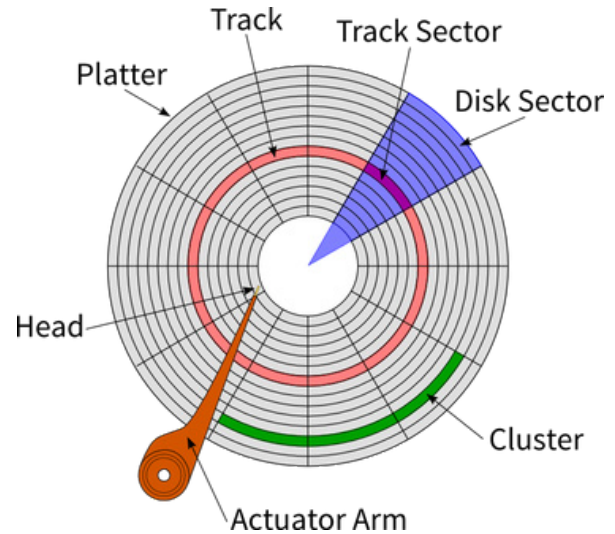

Figure 9.31 : Working of HDD
A hard disk typically works on the principle of simple magnetism to store the data and information. A hard drive typically consists of a large plate that is usually made up of a magnetic material and is known as a platter. The figure 9.31 shows the working of HDD. The platter is usually constructed in a circular shape. The surface of the magnetic plate is divided into billions of tiny compartments. The magnetization of the tiny areas can be performed independently. Magnetized tiny area of the plate denotes a binary high and is equivalent to binary value one (1); whereas, the demagnetized tiny area denotes a binary low and is equivalent to binary value zero(0). This indicates that the letters, numbers, and other forms of data stored by the hard disk drive are a combination of binary values, i.e., zeroes or ones. The smallest portion of the information stored by the hard disk drive is known as a bit. The process of magnetization of materials is typically preferred to store information in the disks as it does not get affected by switching off